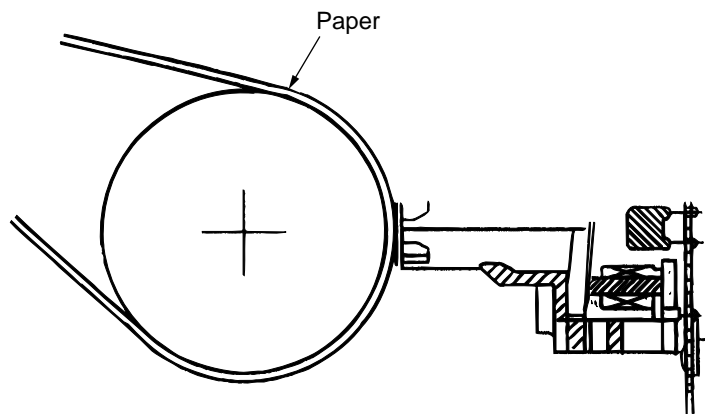

Figure 2-3
- (2) Operation of printhead (See Figure 2-3.)